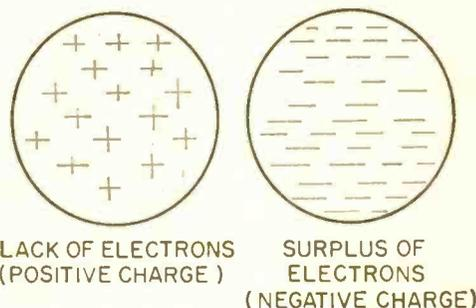
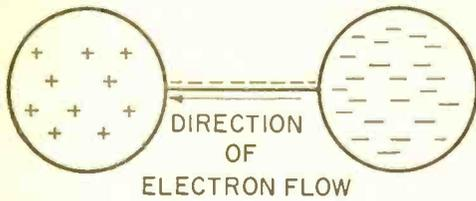

Fig. 4. Two bodies with opposite charges.
Fig. 5. Electron flow reduces charges.
Figure 4 shows two oppositely charged bodies. The negative charge of the right hand body is due to there being a greater number of electrons than protons in this body, while the left hand body is positively charged due to its having fewer electrons than protons. When an electrical conductor is placed between these two oppositely charged bodies as shown in figure 5 the negatively charged free electrons will be repelled into the connecting wire by the negative charge of the right hand body. At the same time, these free electrons are attracted by the positive charge of the left hand body—free electrons moving through the wire from the right hand body to the left hand body. This movement of free electrons will continue only until the excess of electrons are equally divided between the
**Electric charges produce current.** While figures 4 and 5 serve to illustrate the basic flow of an electric current by means of electric charges, you can see that the flow of current will stop as soon as the charges are neutralized—this taking but a fraction of a second. What we need is some method of continuously maintaining a charge or potential difference between the two ends of the electrical conductor. In effect, what we are looking for is an “electric charge pump.”